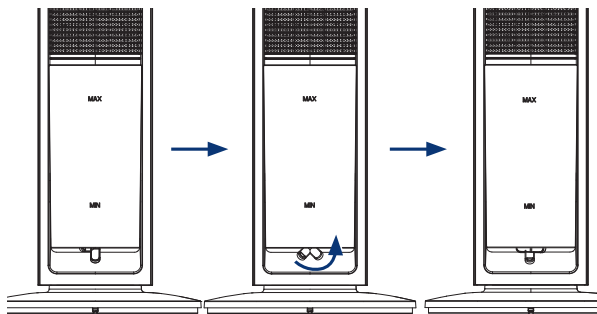

Figure 1
**Important:** The appliance MUST be switched off when filling the water tank (4) with water.
- Rotate the water tank, release knob 90° anti-clockwise and slowly pull out the water tank (Figure 1).